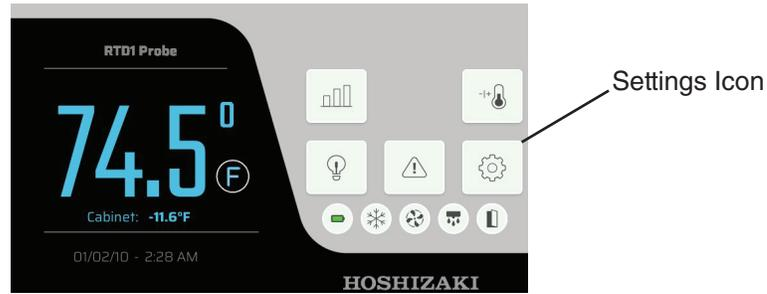

Fig. 17
1) Press the display module settings icon. See Fig. 17. User Settings display appears.